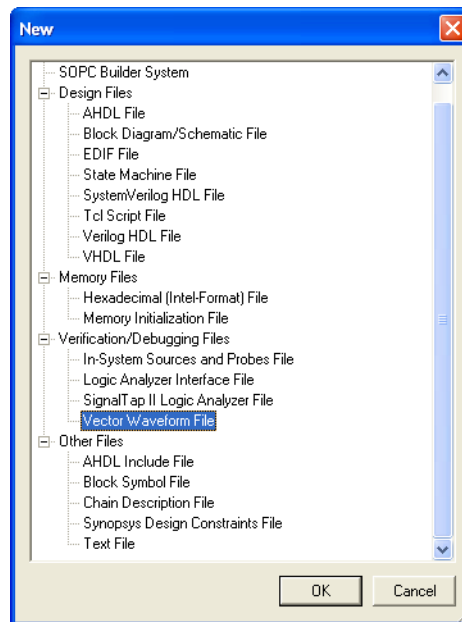

Figure 30. Need to prepare a new file.
1. Open the Waveform Editor window by selecting **File > New**, which gives the window shown in Figure 30. Choose **Vector Waveform File** and click **OK**.